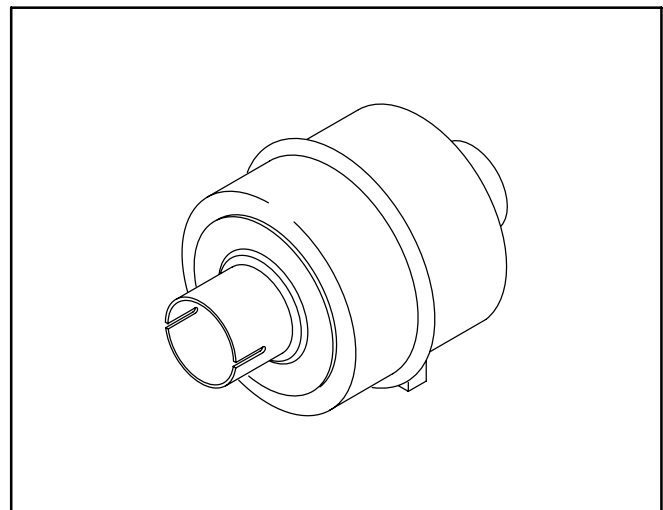

FIGURE 3-3. IN-LINE SPARK ARRESTOR
4. Mount the in-line spark arrestor (Figure 3-3) in a horizontal run of tail pipe. The location must allow access to the cleanout plug, which should point down. The tailpipe must be expanded to **1-1/2 inch OD** where it mates with the inlet of the spark arrestor. The tailpipe must be expanded to **1-1/2 inch ID** where it mates with the outlet of the spark arrestor.